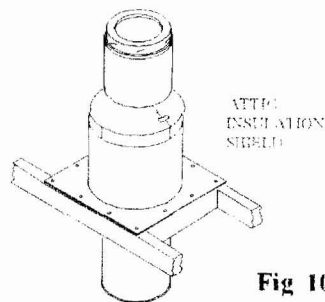

Fig 10
e. Secure the Attic Insulation Shield to the top of the framed opening using at least (3) 8-penny nails or (3) #8, 1-1/2" wood screws per side (Fig 10).